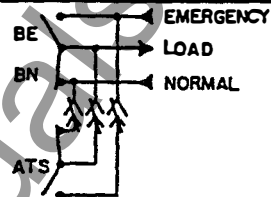

FIG. 2 BP IS BYPASS NORMAL WITH ATS IN NORMAL POSITION.
2. Position Manual Bypass Handle (MBH) to same power source as ATS (Fig. 2).